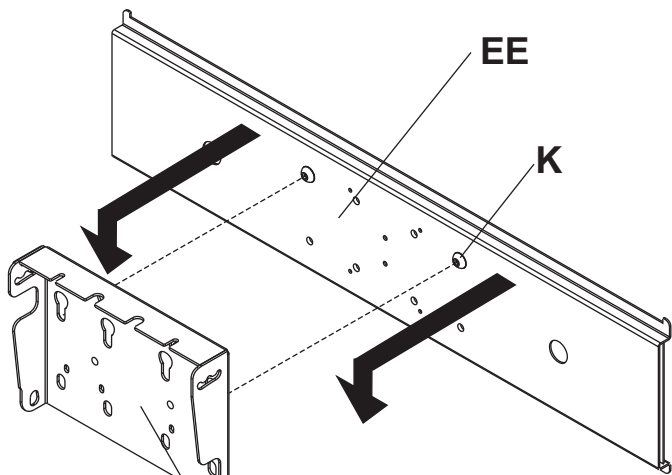

fig. 4.1
4 Thread two M10 x 15 mm screws (K), leaving .25" exposed thread, into top holes on back of adapter plate (EE). Hook adapter plate (EE) to mounting plate and attach using two bottom M10 x 15 mm screws (K) as shown in figures 4.1 and 4.2. Tighten screws using 6 mm allen wrench (not included).